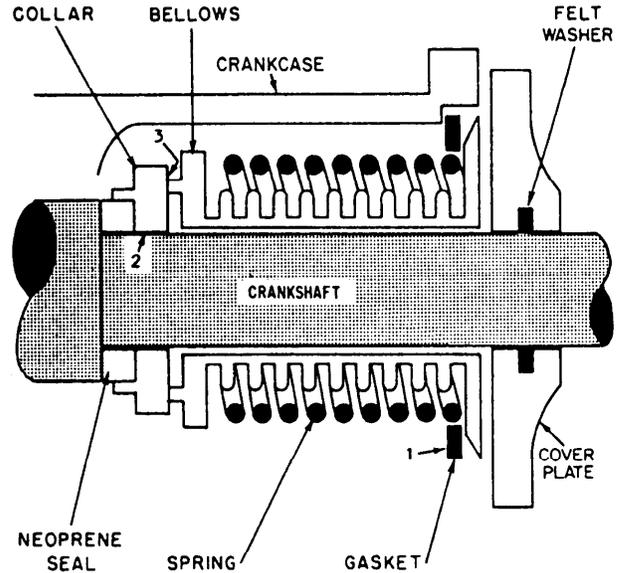

Figure 11-7.—Station bellows seal.
A stationary bellows seal is illustrated in figure 11-7. It consists of a bellows clamped to the compressor housing at one end to form a seal against a rotating shaft seal collar on the other. The sealing points are (1) between the crankcase and the bellows and sealed by the cover plate gasket, (2) between the crankshaft and the shaft seal collar and sealed by a neoprene gasket, and (3) between the surface of the bellows nose and the surface of the seal collar and sealed by lapped surfaces. The stationary bellows seal is factory set for proper tension and should not be altered.